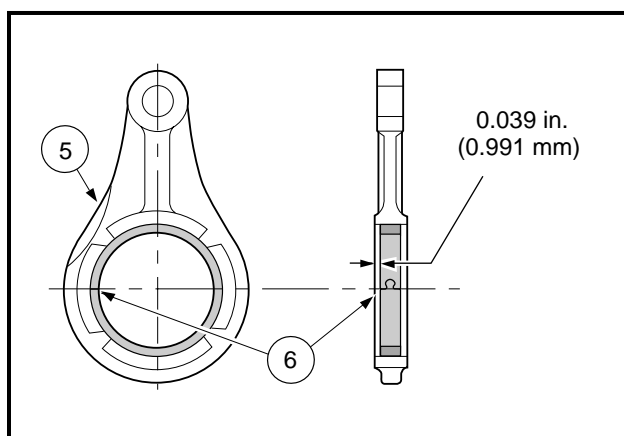

Figure 13-81 Install New Bearing Into Link Rod
4. Using a 1.97 inches (50 mm) bearing driver, press the new bearing into the link rod with its seam (6) toward the side of the link rod with the hollow (5) and at right angles to the rod center, to a depth of 0.039 inch (0.991 mm) from the surface (**Figure 13-81, Page 13-37**).